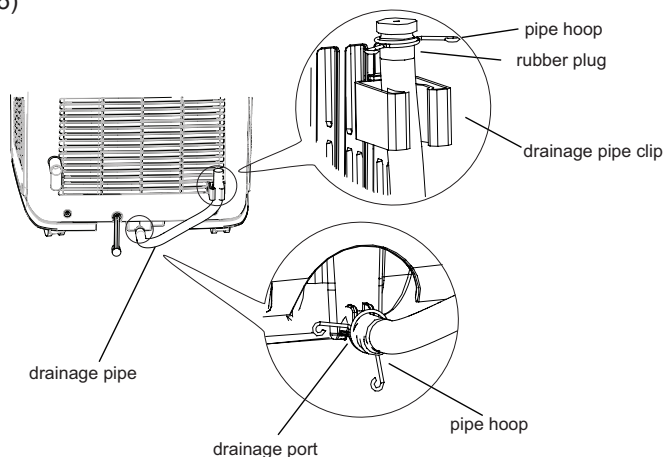
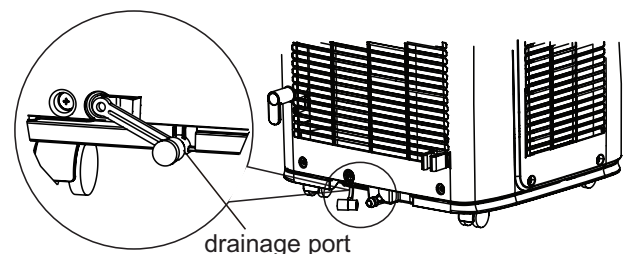

Fig.5
Fig.4
- (2) Remove the rubber plug at drainage port.(As show in Fig.4)
- (3) Put the drainage pipe into drainage port and screw it up, and then bind it with pipe hoop.
- (4) Put the rubber plug into the other side of drainage pipe, fix it with pipe hoop and then fix it in the drainage pipe clip.(As show in Fig.5)